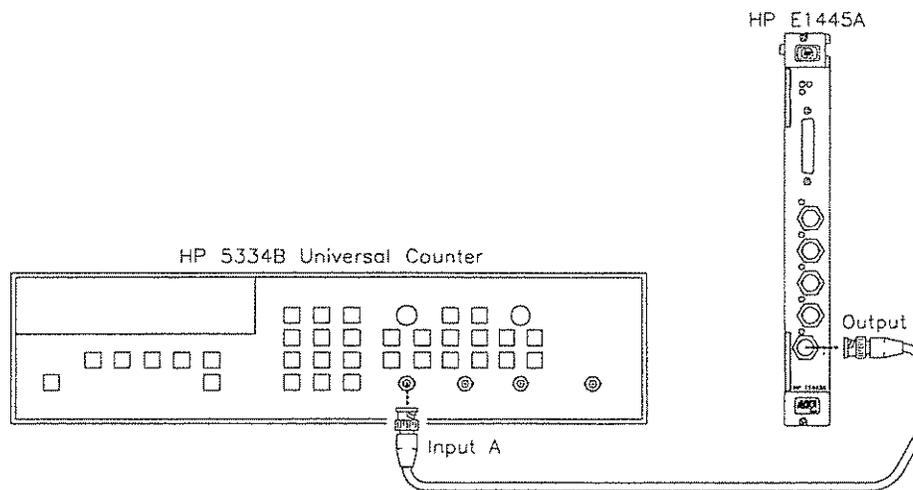

Figure 2-9. Equipment Setup for Test 2-8
- Connect equipment as shown in Figure 2-9